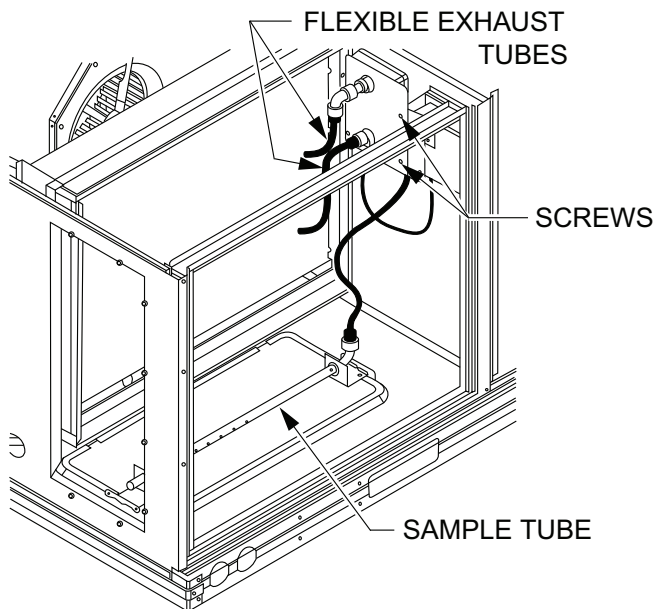

Fig. 54 — Return Air Smoke Detector Module Shipping Position
1. Unscrew the two screws holding the return air sensor detector plate. See Fig. 54. Save the screws.